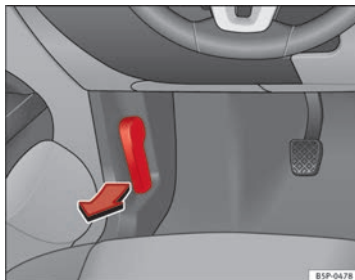

Fig. 156 Detail of foot-well area on driver side: lever for unlocking the bonnet.
- To release the bonnet, pull the lever under the dash panel ⇒ Fig. 156 in the direction indicated (arrow). The bonnet will be released by a spring action ⇒ ⚠.